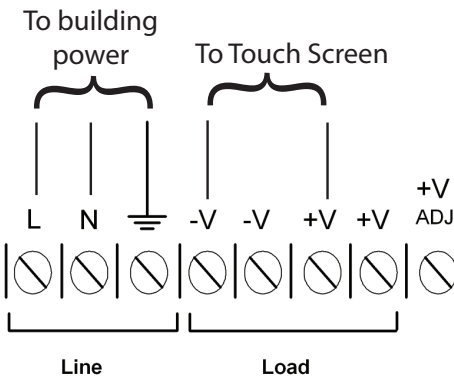

Figure 13: MD-990 Terminal Block Wiring
7. Connect the building power supply wires to the MD-990 line terminal screws as shown in Figure 13.